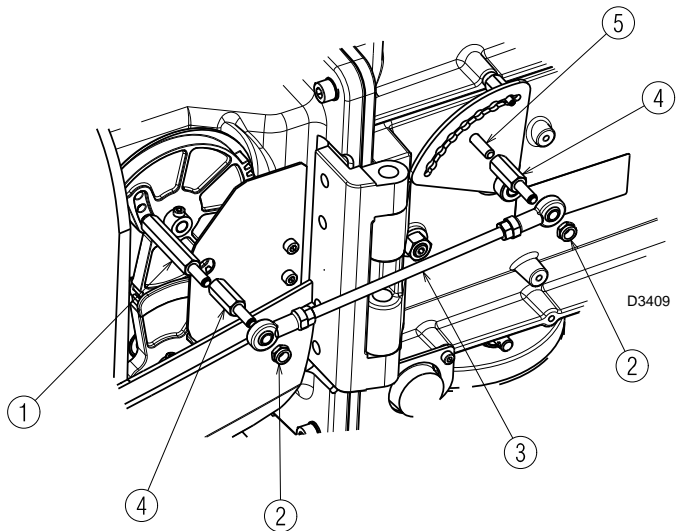

Fig. 17
If you need to move the hinge to the right, you need to fit the spacers 4)(Fig. 17) supplied with the burner.
- unscrew nuts 2)(Fig. 17) and remove tie rod 3);